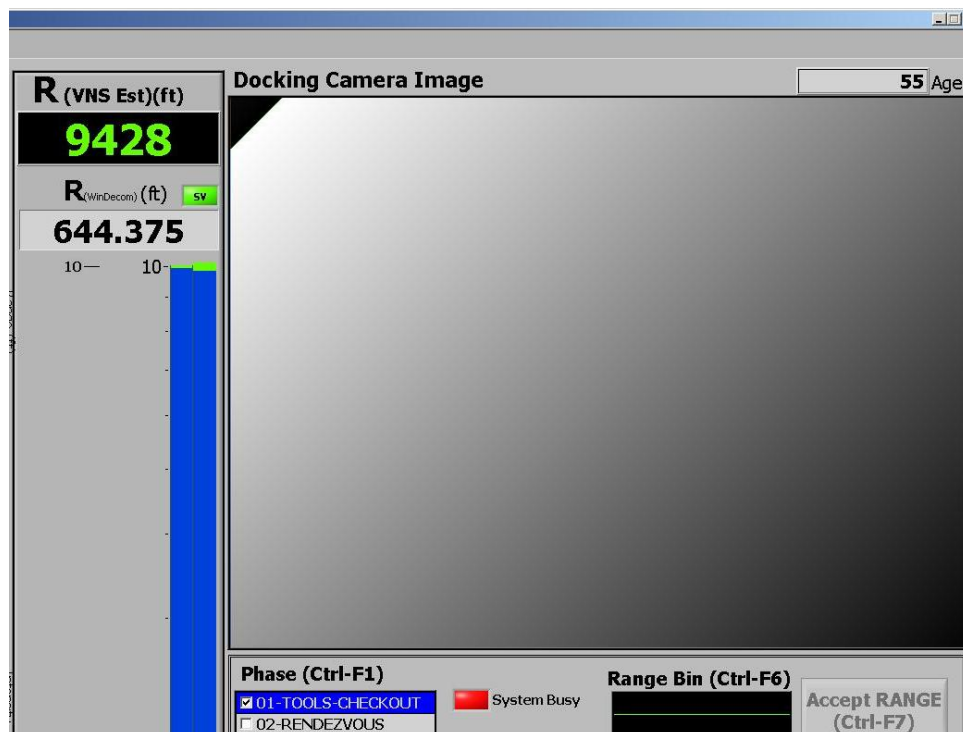

Figure 1 - Docking Camera Test Image.
After initiating the DATA COLLECTION mode command, a 14-min automated process begins. For the first 10 min of this process the VNS is warming up and the System Busy light will be on. Then the DC will perform a Built In Test (BIT) and go to standby. Also the VNS will become active and collect data for 2 min. During this 2 min, the DC and VNS age counters will become active (increment and reset to zero) and the DC image will appear as shown in Figure 1 below. During the last 2 min of this process the VNS remains active and the DC becomes active so the DC image will go live. After 14 min, the automatic process will shut off the VNS and DC. The images on the screen will fade until the application is commanded to IDLE
24. Verify that Docking Camera test image is as shown in Figure 1 below or is a live image